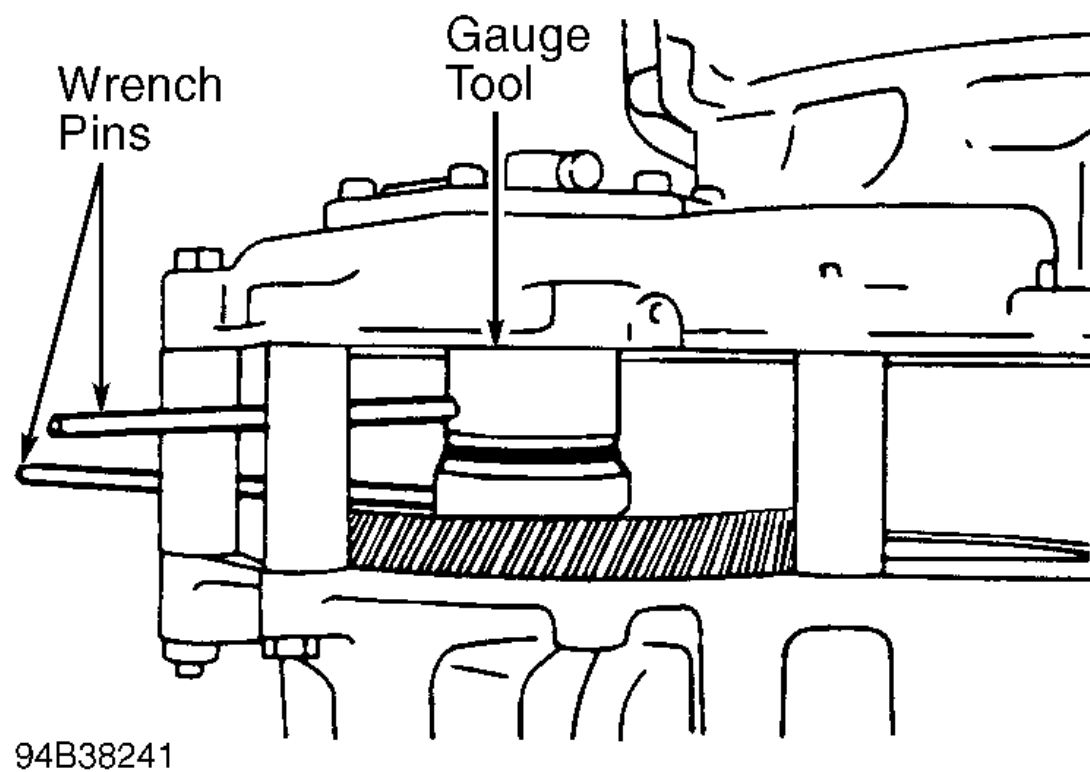

Fig. 25: Measuring Differential Bearing Preload
- Install differential assembly into converter housing. Position differential side bearing race in recessed end of Gauge Tool (T87C-770002DJ). Place gauge tool on differential. See Fig. 25.
- Ensure gauge tool is completely threaded together so that no gap is present. Position spacer collars and assemble case halves using supplied bolts and washers of tool set. See Fig. 25. Tighten bolts to 22-34 ft. lbs. (292D46 N.m).